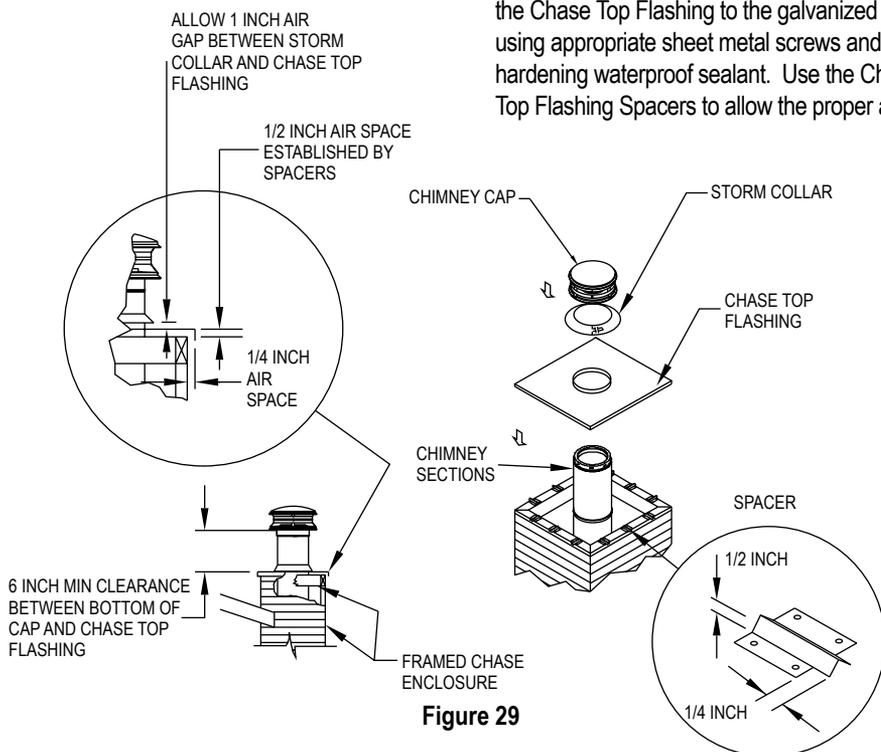

Figure 29
9. Install Chase Top Flashing: It is recommended that a Tee Supported Chimney be enclosed in a chase. If a chase enclosure has been constructed, you can either use a standard flat-roof flashing, or you can use a Chase Top Flashing. Using a Chase Top Flashing allows for a lower profile for the chimney. The Chase Top Flashing has an opening that is 3" larger in diameter than the DuraTech Chimney. If the Chase Top Flashing can fit over your chase enclosure as required (**Fig 29**) then install as directed, or trim as needed. However, if the Chase Top Flashing is smaller than your chase enclosure, you will need to provide a galvanized sheet capable of covering your chase and overhanging the sides by 1/2 - 3/4 inch. Attach the Chase Top Flashing to the galvanized sheet using appropriate sheet metal screws and non-hardening waterproof sealant. Use the Chase Top Flashing Spacers to allow the proper air-gap
clearances on the galvanized sheet. The Chase Top Flashing Spacers are available to insure that the proper air-gap is maintained. **Figure 29** displays in some detail, how these air gaps are established using the Spacers and Chase Top Flashing. Secure the Chase Top Flashing to the chase using a sufficient number of #8, 1-1/2" wood screws, being careful to insure the air gap is maintained between the flashing and the chase. Seal the screw heads with non-hardening sealant. When installing the Storm Collar, allow a 1" air space between the bottom of the Storm Collar and the Chase Top Flashing.